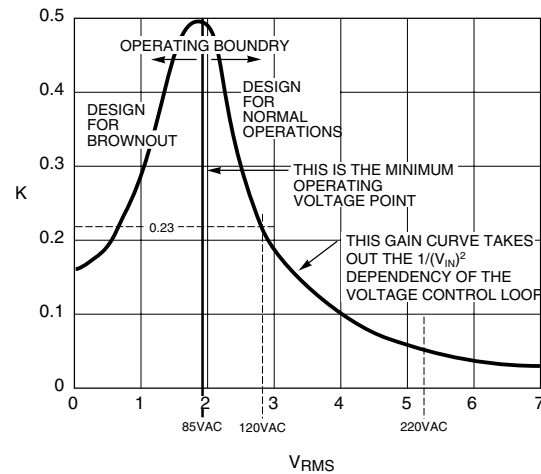

Figure 6. K-factor. Gain Modulator gain with respect to the voltage at VRMS.
The ML4821 gain modulator responds linearly to current injected into the I_{SINE} pin, and in an inverse-square fashion to voltage on the V_{RMS} pin. At very low voltages on the V_{RMS} pin, the gain modulator enforces a power limit, or "brown-out protection", upon the overall PFC circuit (Figures 6 and 7). The rectified line input sine wave is converted to a current for the I_{SINE} input via a dropping resistor. In this way, most ground noise produces an insignificant effect on the reference to the PWM comparator. This gives the ML4821 a high degree of immunity to the disturbances common in high-power switching circuits.
Figure 6 shows the gain adjustor (K) with respect to the voltage at V_{RMS} . The curve has been separated in two parts. The right hand part is for operation under normal conditions in the voltage range from minimum line voltage to maximum line voltage (90VAC to 260VAC). 85VAC on the curve has been chosen to account for tolerances. Under normal operating conditions as input voltage decreases the gain increases compensating for the drop in the loop gain.